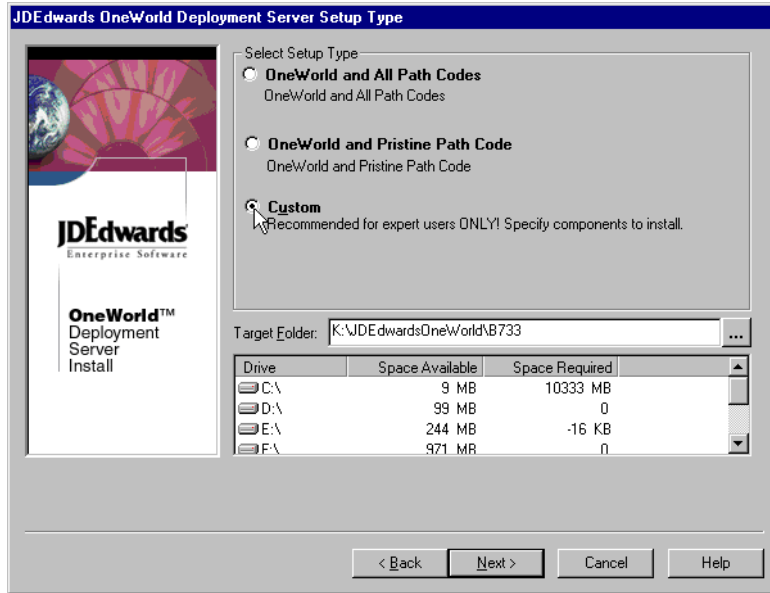

Figure 52. OneWorld Deployment Server Setup custom installation
7. Select **Custom** for the J.D. Edwards OneWorld Deployment Server Setup Type (refer to Figure 52 on page 176). This option is required to install the Central Objects on the AS/400 system. Enter the directory where the OneWorld files will be installed on the Deployment Server (for example, K:\JDEdwardsOneWorld\B733). If this directory does not already exist, the setup program creates it. Click **Next**.
15. Select **Custom** on the J.D. Edwards OneWorld Deployment Server Setup Type display (Figure 52), because the Central Objects will be installed on the AS/400 system. Click **Next** to continue.